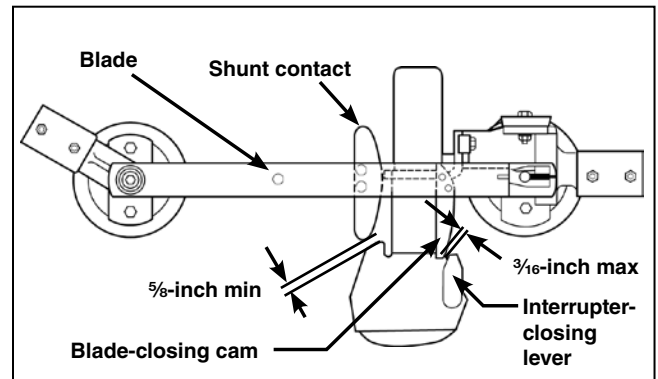

Figure 37. Blade assembly moving in the *opening* direction.
- (c) In the fully **Closed** position, clearance between the blade-closing cams and the interrupter-closing levers must be within the limit shown. See Figure 37.